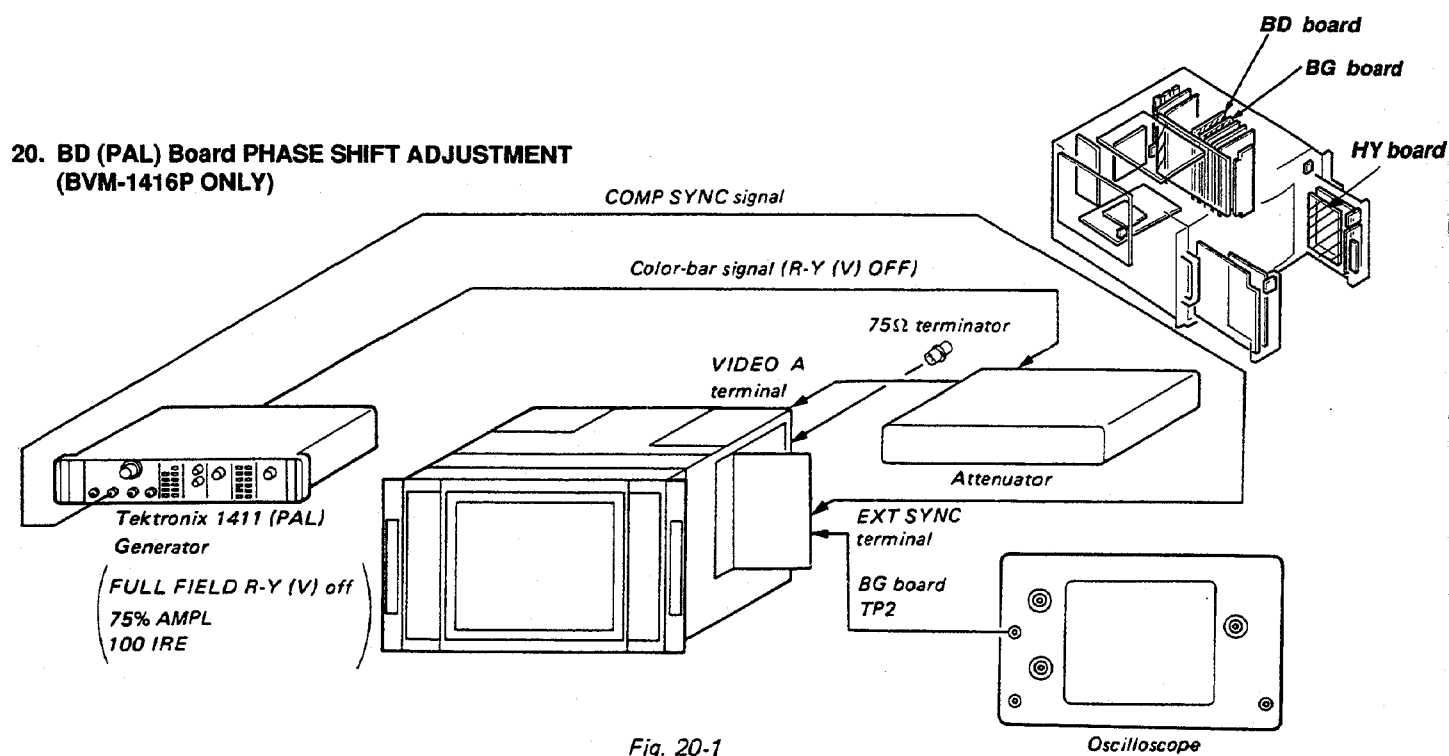

Fig. 20-1
1. Complete the connection as shown in Fig. 20-1.